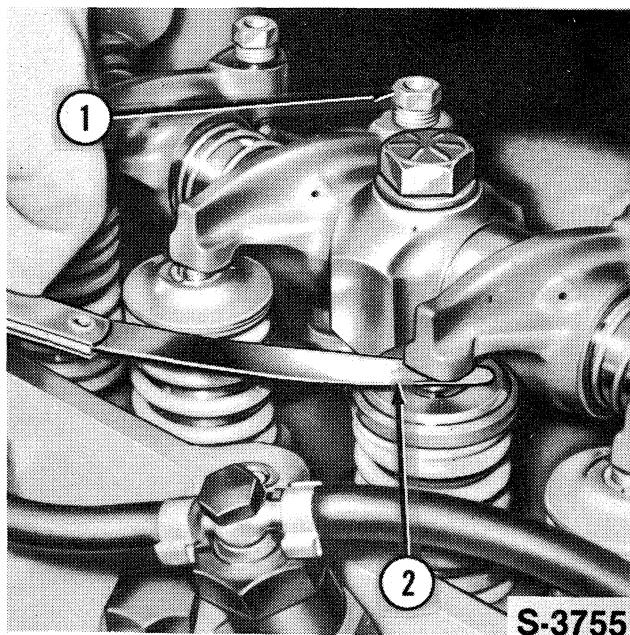

Figure 21
- Rotate the engine and set the valve lash. Figure 21. See "Specifications" — Chapter 3.